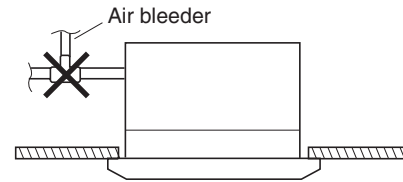

Fig. 1-53
- Do not install an air bleeder tube, as this may cause water to spray from the drain tube outlet. (Fig. 1-53)